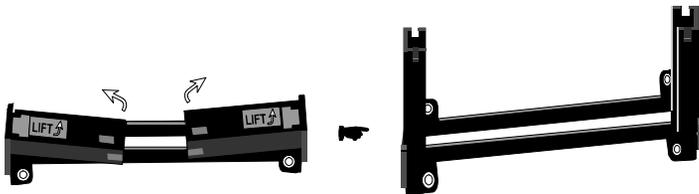

Figure 6
- 1 First, please refer to figure 6 below, and follow the direction to lift up the fixed foldable pentium® II Retention Mechanism. This pre-installed device is designed for you to install Pentium® II CPU more easier and to avoid any damage on the board due to overtightening the four screws.
Figure 7 shows the layout of Slot 1 and the holes for mounting the Heatsink base piece (figure 6).